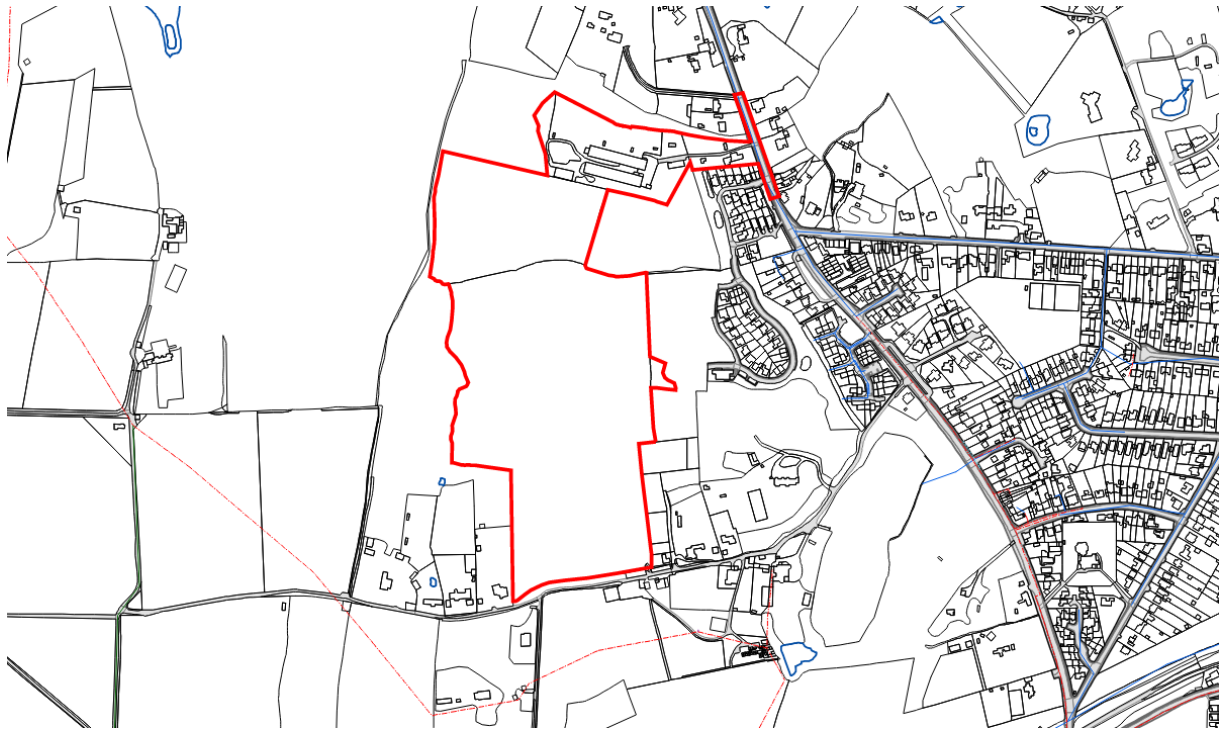

Figure 7: Existing Thames Water Foul Sewer Network
- 4.5.3 Thames Water is responsible for sewer assets in the area with foul sewers infrastructure routing through the development to the south of the site to serve the Huntsland properties (Figure 7).